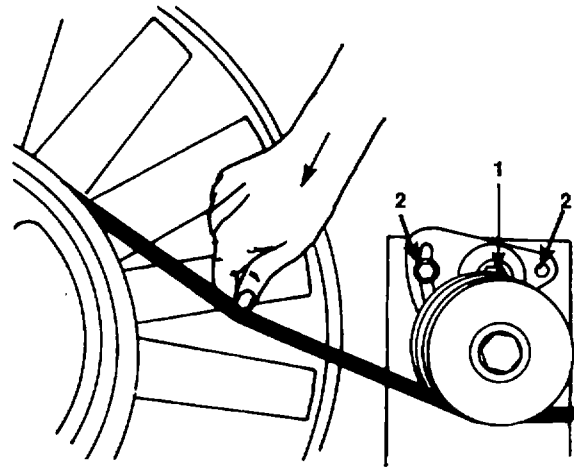

Figure 3-9. Compressor V-Belt and Idler Pulley
1. Press V-Belts down between idler pulley and compressor fan drive (figure 3-9).
3. Loosen two 9/16-inch hex bolts (2, figure 3-9).